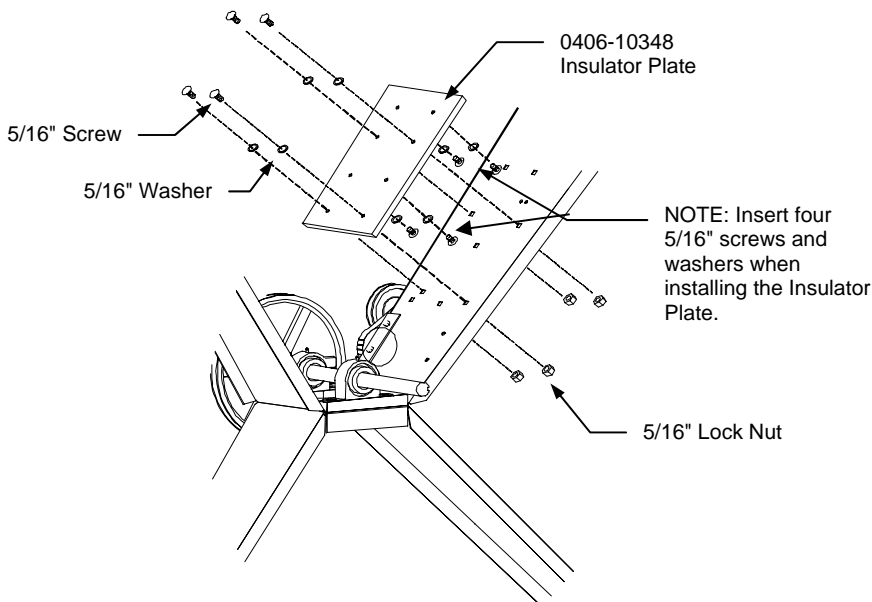

Figure 2
4. Install the Insulator Plate to the Fan Cross Brace as shown in Figure 2. The 5/16" cap screws are inserted from the top of the Insulator Plate. Also insert four 5/16" screws and washers from the bottom of the Insulator Plate to attach the motor in the next step.